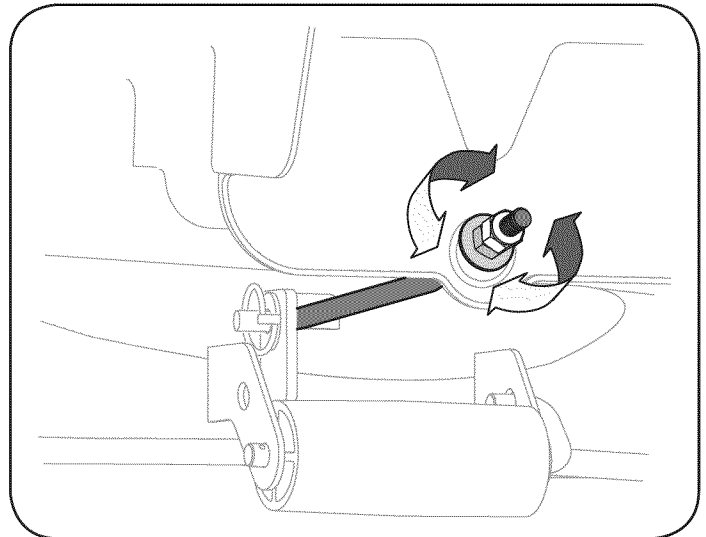

Figure 23
1. Loosen (thread outward) the hex lock nut on the end of the deck hanger rod. See Figure 23.
3. To *lower* the front of the deck, loosen (thread outward) the hex nut, away from the front hanger bracket. See Figure 23.